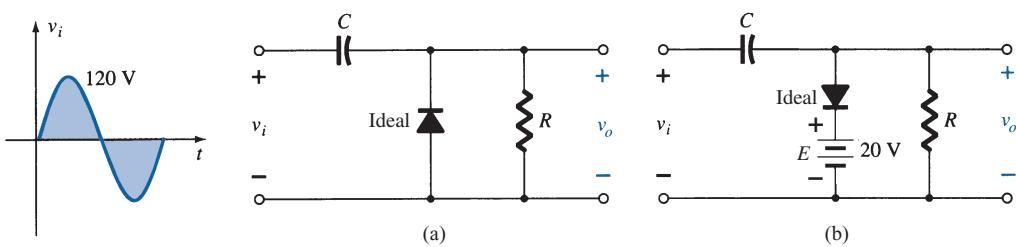

FIG. 182
38. Sketch v_o for each network of Fig. 182 for the input shown.